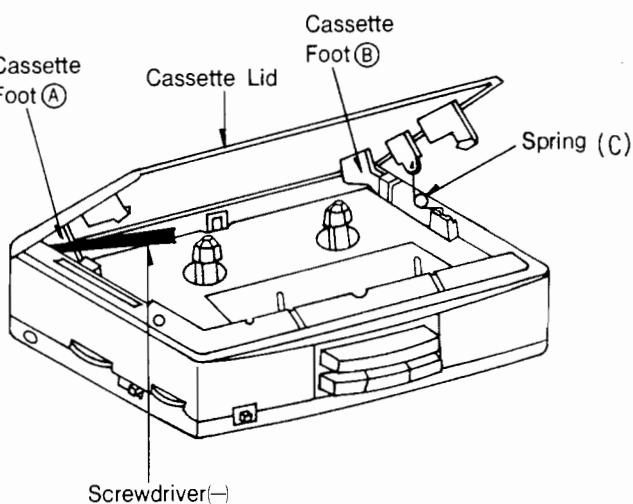

Fig. 3
2. With a screwdriver, push cassette foot (A) to the right as shown in Fig. 3, and then pull out the right side of the cassette lid.
3. Push cassette foot (B) to the left and then pull out the cassette lid.
4. Remove the spring. (C)×1.